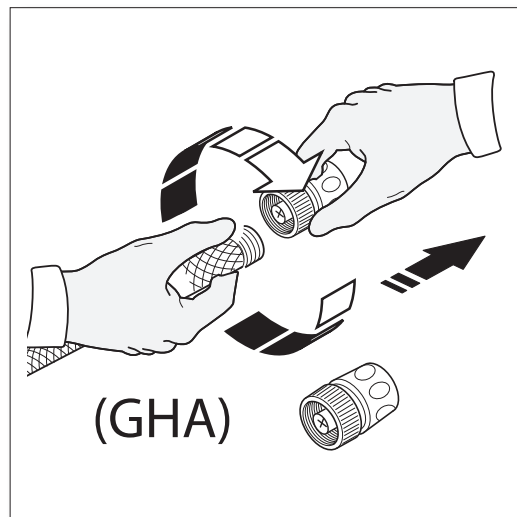

Fig. 16
- Attach the garden hose adapter to the end of the garden hose (**Fig. 16**).